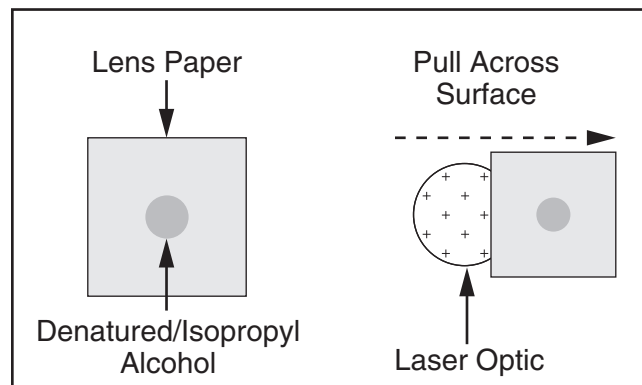

Figure 78. Pulling lens paper across surface.
4. Grab edge of paper and slowly pull across lens/mirror surface (see **Figure 78**). Allow surface to air dry.